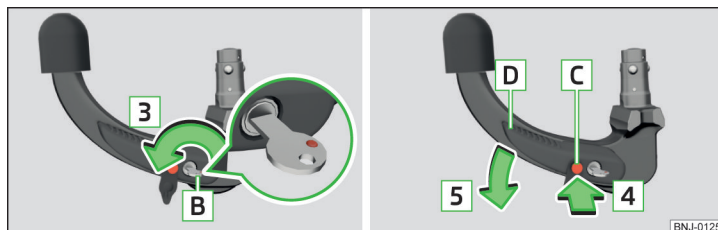

Fig. 152 Lock unlock / press release bolt and lever and push
- Turn the key **B** in the direction of arrow **3** so that the red marking points upwards » Fig. 152.